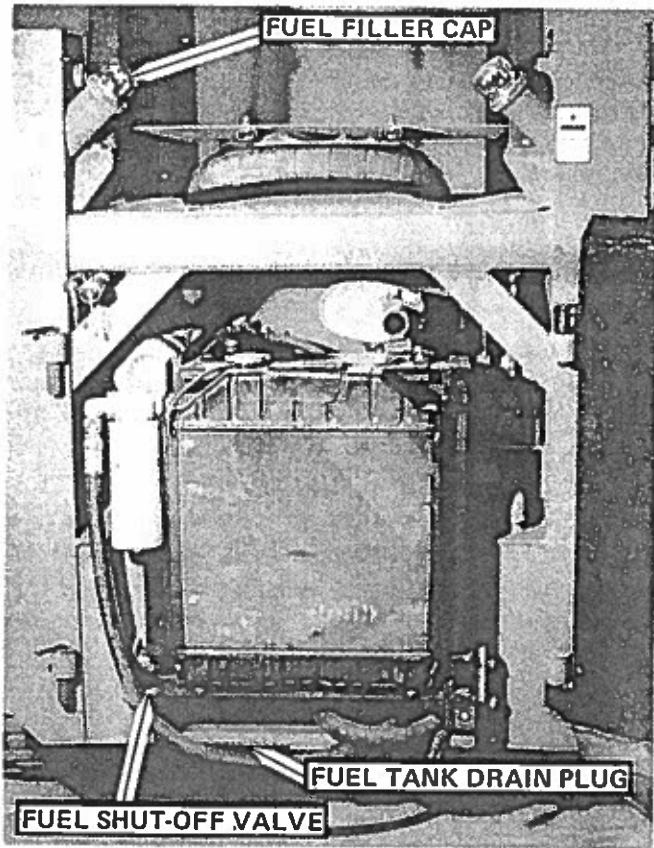

FIGURE 30
The fuel filler spout is located on the left inner side at the rear of the machine, see FIGURE 30. Use the proper octane rating of 91 or equivalent of a regular grade of gasoline.
1. Close fuel shut-off valve, see FIGURE 30.